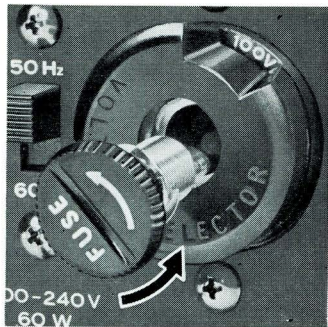

Fig. 5
- (1) Remove the FUSE POST as shown in Fig. 5. Remove VOLTAGE SELECTOR PLUG and reinsert to standard area voltage.